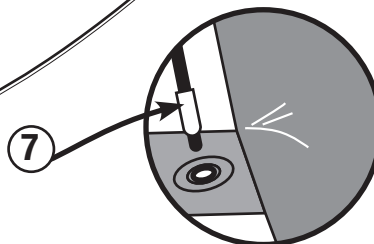

Fig. 9
- Insert the tips of the awning poles into the grommets. (Fig. 9)